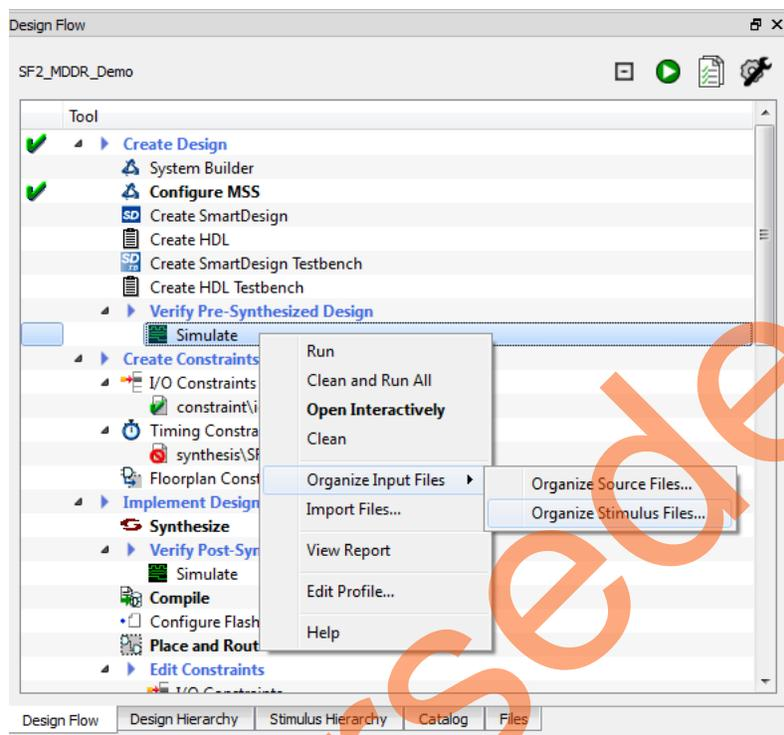

Figure 9 • Invoking Organize Stimulus Files Window
7. Right-click **Simulate** under **Verify Pre-Synthesized Design** and then select, **Organize Input Files** > **Organize Stimulus Files** as shown in Figure 9.